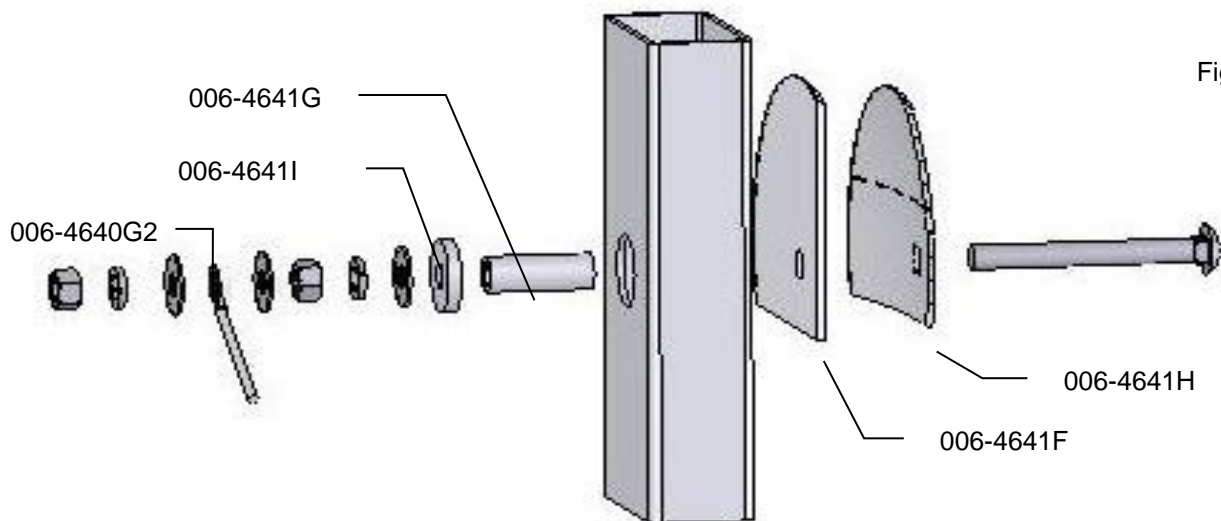

Figure 11
7. Locate the 006-4641G. The piece will need to be cut down to size. Use the already machined line in the bushing to cut off the small piece shown above. (Figure 11)